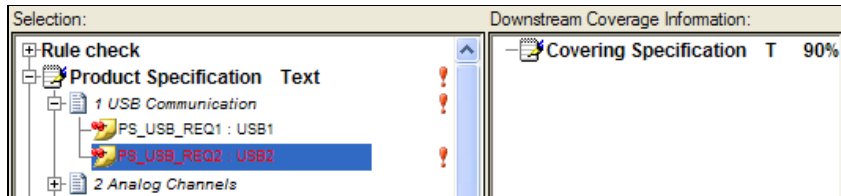

Figure 4-3. PS_USB_REQ2 Selected in Coverage Analysis View
- Click the **PS_USB_REQ2** requirement as shown in Figure 4-3. The Downstream Coverage Information column does not display any covering elements because the covering document does not contain a reference to the requirement.